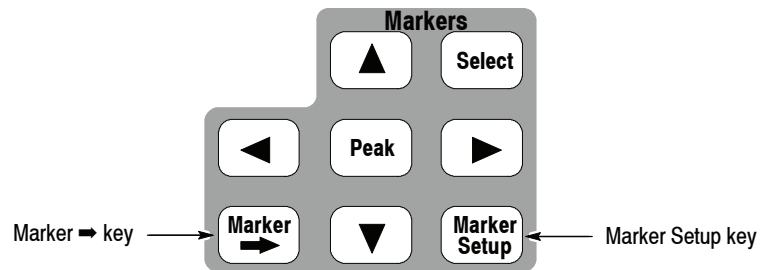

Figure 3-33: Marker keys
1. Press the **Marker Setup** key on the front panel (see Figure 3-33).